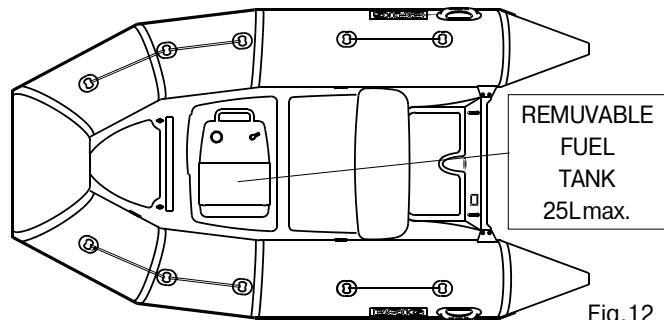

Fig.12
- for DeLuxe and Tender Deluxe versions - inside the Tender console (fuel tank 25L max) (see Fig. 12)